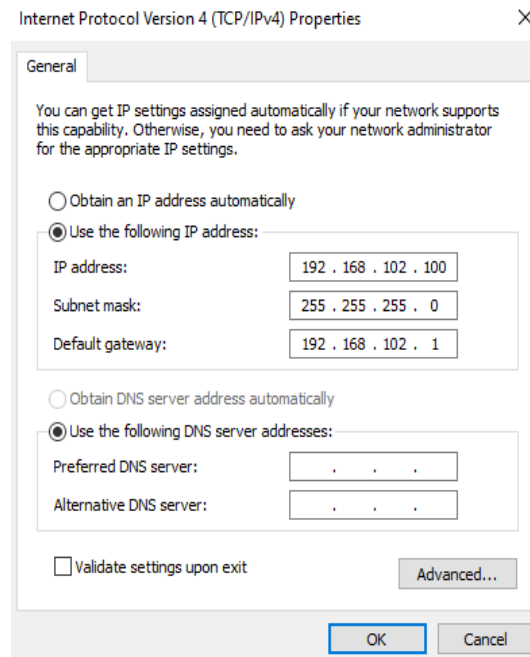

Figure 2: Windows 10 network settings
- set the address as shown in Figure 2